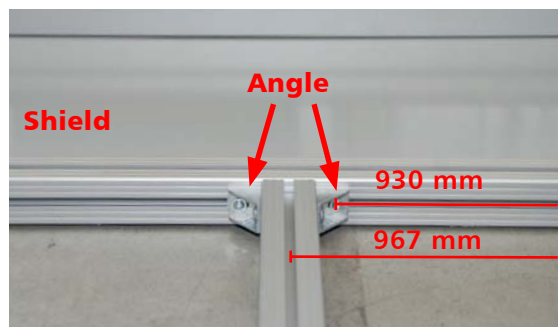

fig. 3.2-8
Now insert two (2) T-nuts into the lead channels of the short frame profile **A2d**, 1 x at the bottom left and 1 x at the bottom right. There are 967 mm | 38.07 inch from the inner edge of the side supports to the middle of the lead channel. Place the short frame profile **A2d** in the middle of the long frame profile **A2c** and attach the profile angles **A2e**, one to each side using the fillister head screws with flange (**fig. 3.2-8**). Tighten it properly with the corresponding Allen key.